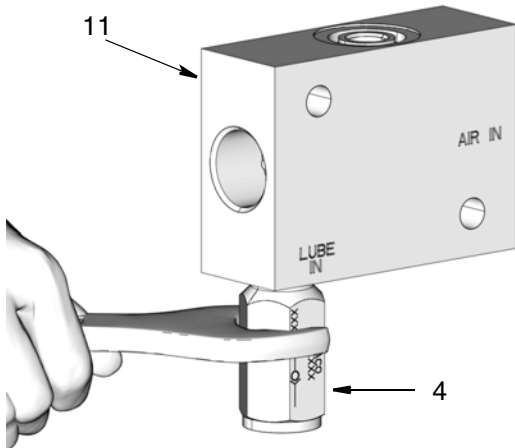

FIG. 9
1. Apply thread sealant to the check valve (4) threads. Install the check valve (4) in the LUBE IN opening in the valve body (11) until finger tight. Then turn 2 additional turns (FIG. 9).